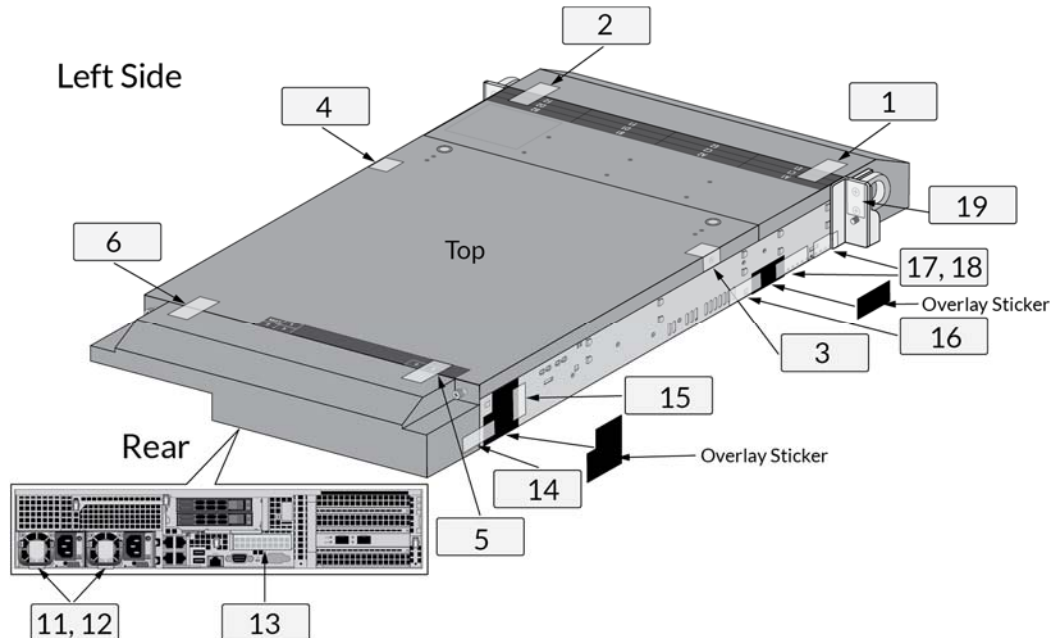
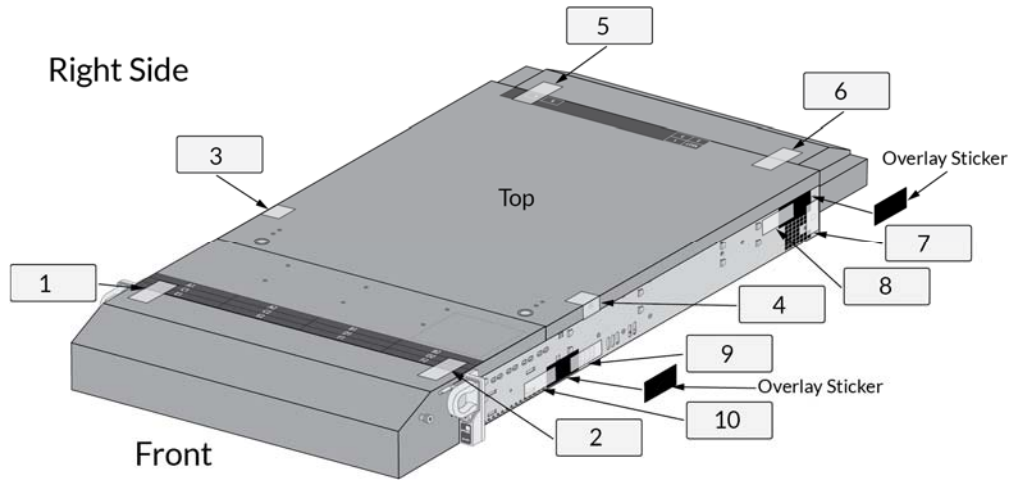

Figure 53 – M-600: Tamper Seal Locations (Top and Rear)
Figure 54 – M-600: Tamper Seal Locations (Top and Front)
4. Install a tamper-evident seal on the back of the appliance. This is seal #13 in the M-600 Figure 53. You need to install this seal before you install the M-600 FIPS back cover.
- a. Slide the back cover onto the back of the appliance and turn the two (2) thumb screws clockwise until tight (one (1) screw on each side) to secure the cover.
6. Apply a tamper-evident seal to each location shown in the following M-600 illustrations below. Also install the overlay stickers to cover vent openings (two (2) stickers on each side). You then install tamper-evident seals over the overlay stickers. Apply two (2) tamper-evident seals on the back side of the right rack handle (see seals #18 and #19 on the left side in Figure 54). Apply two (2) tamper-evident seals on the power supplies (see seals #11 and #12 with rear inset of Figure 53).